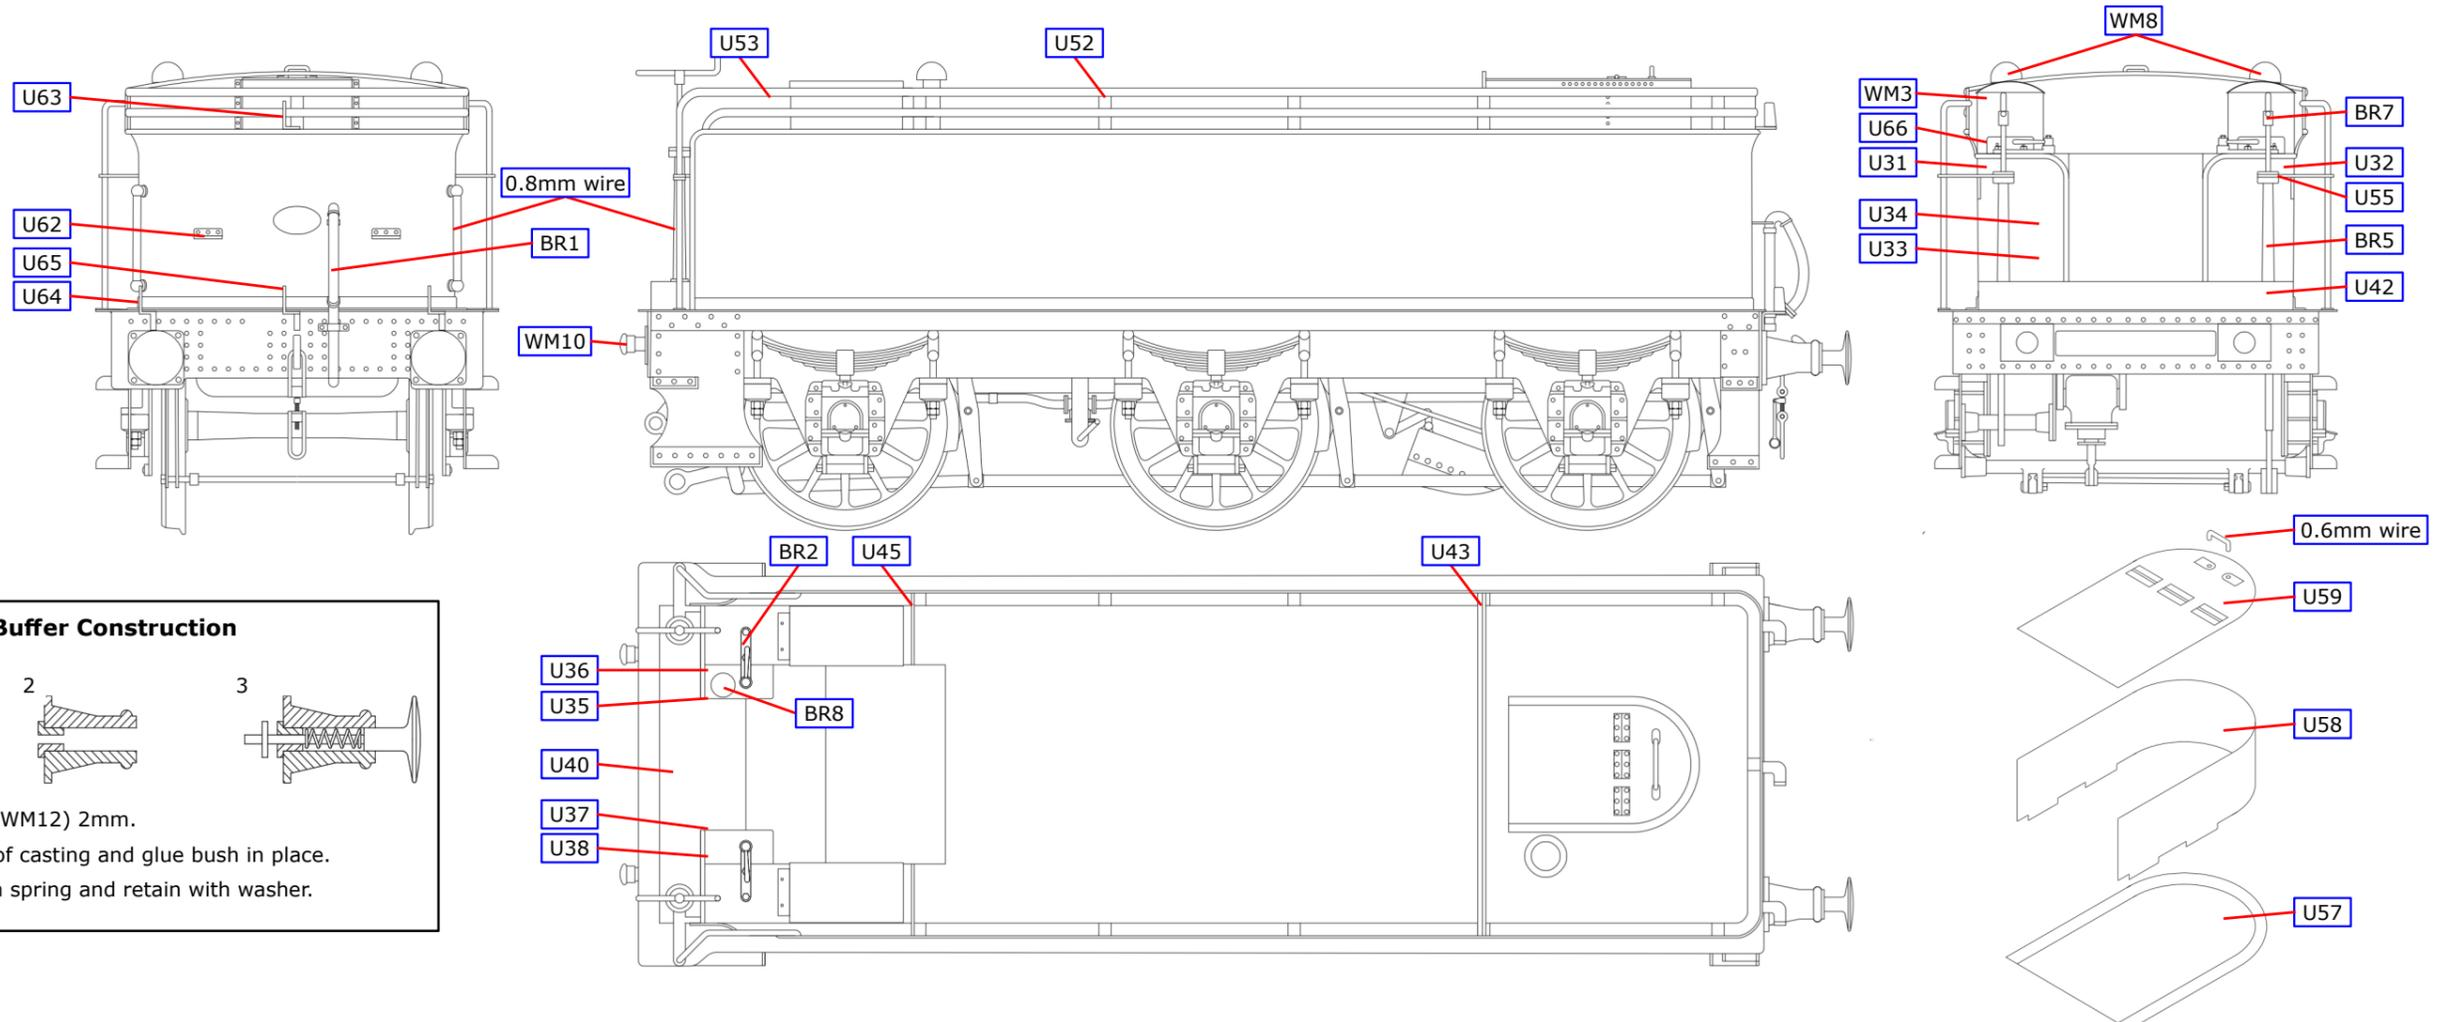

Fig 11. Detail 3.
**Handrails.** On the handrail brackets (U55) drill the 0.8mm holes for the handrail wire at the half etched dimple; note the brackets are handed. Fold along the half etched line and strengthen the fold with a fillet of solder. Modify the brackets as in Fig 11. Fix the brackets over the standard and attach inside the sides. Fit the front handrails using 0.8mm wire; the handrail is fixed in the half etch slot inside the coal rail extensions. Fit the rear handrails from 0.8mm wire with two handrail knobs as shown.
**Combined Water Filler and Scoop Fountain.** Refer to Fig 11. Emboss the rivets on the combined water filler and scoop fountain sides (U58) and form to shape. Solder to the base (U57). Emboss the rivets on the top (U59). Make the handle from 0.6mm wire. Attach the top to the sides and then solder in place on the tank top. Fit the tank vents (WM8) behind the coal plates.